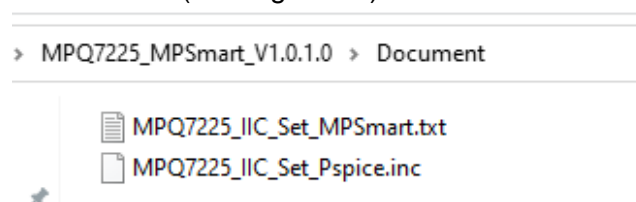

Figure 26: Pass Parameters File Created by the IIC Spreadsheet
3. Enter the design specifications in the appropriate fields in the “IIC setup” sheet (see Figure 27 on page 20). Click the “Save Now” button. A text file containing all of the setting parameters should be saved in the document folder (see Figure 26).